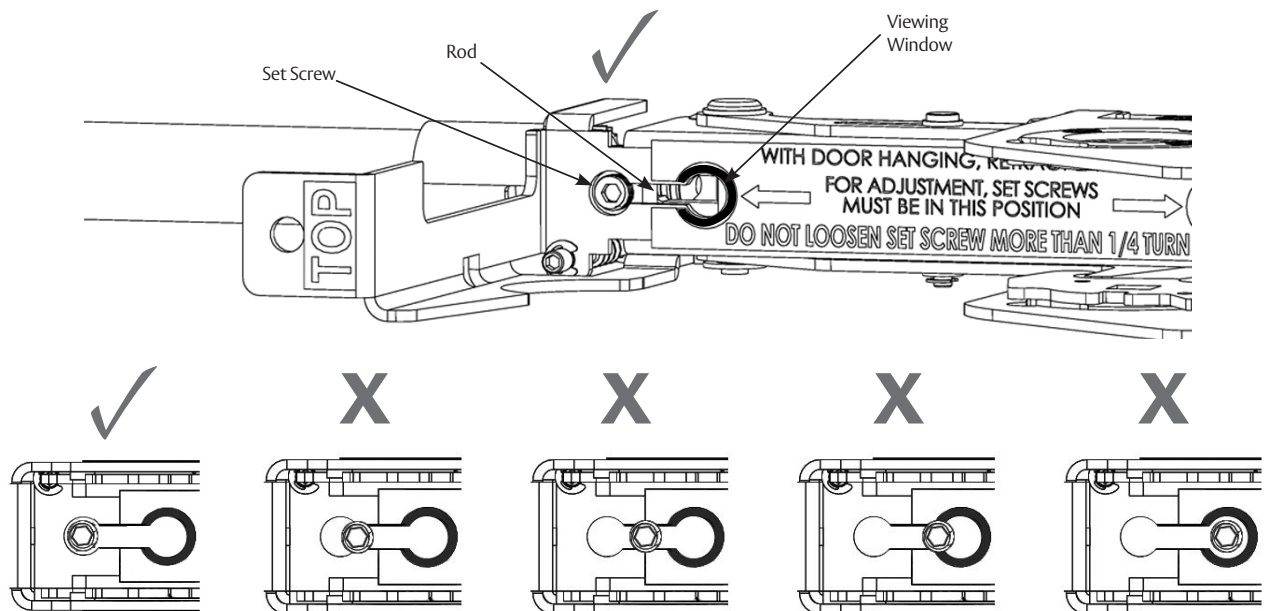

Figure 43
- Be certain a portion of the red end of the rod can be seen in the LBC viewing window and set screw is in the location shown. (Figure 43)